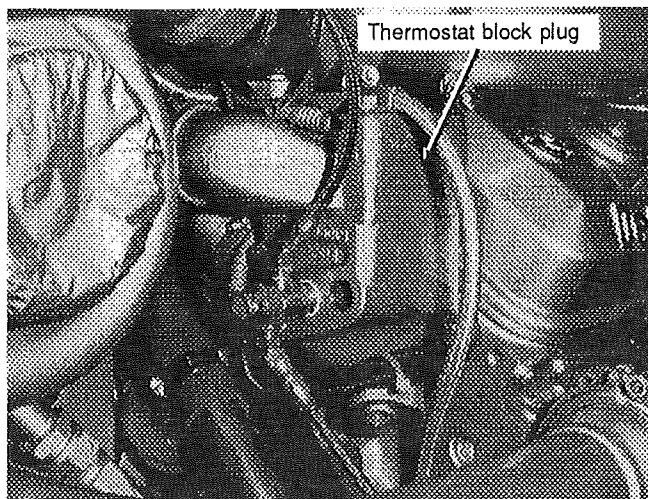

FIG. 12
9. Remove plugs on both cylinder head thermostat blocks (see fig.12 et 13).